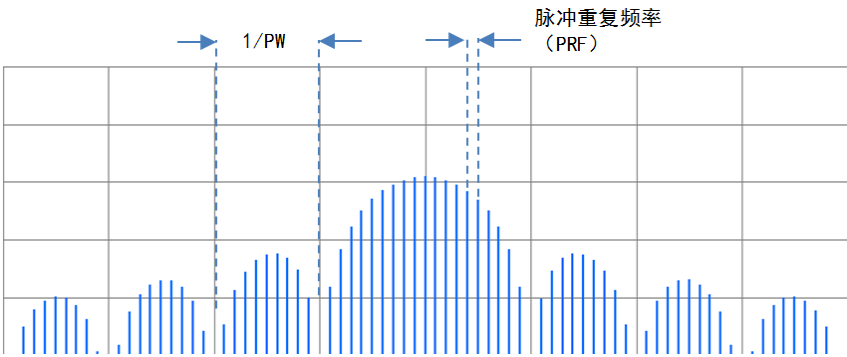

Figure 4.2 Pulse signal spectrum
The pulse modulated signal shows a response of $\sin(x)/x$ in the frequency domain, as shown in Figure 4.2. The width of each flap in the frequency domain is inversely proportional to the pulse width (PW), and the interval between the spectral components is equal to the pulse repetition frequency.